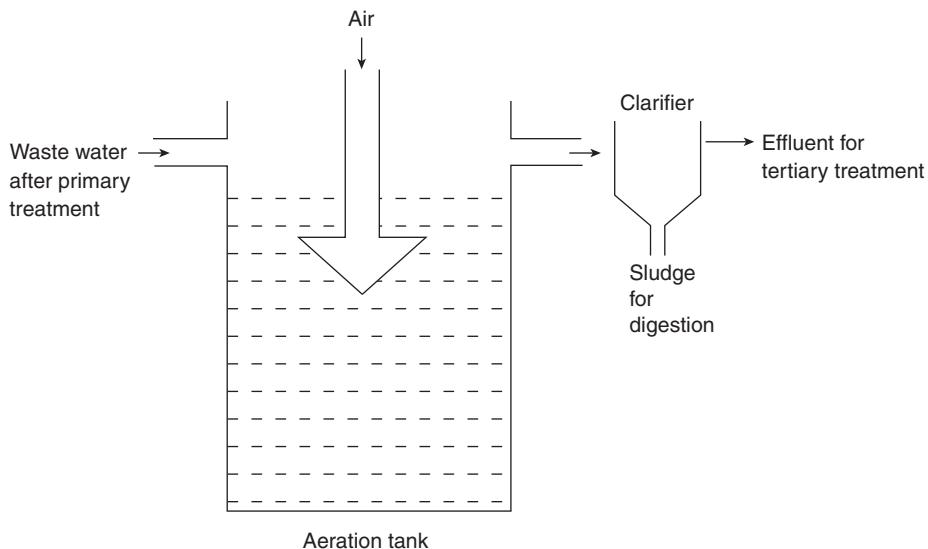

Figure 12 Schematic representation of activated sludge process.
- Activated sludge process (ASP):** In this process, wastewater is pumped into an aeration tank and air or oxygen is passed through it (Figure 12). An activated sludge is generated by aeration of sewage which consists of organic material containing large number of micro-organisms. This is then added as a floc to wastewater coming in after primary treatment. The mixture is aerated and agitated. The microorganisms feed on the organic matter in the wastewater and degrade it. After a sufficient period of time, the water is taken to a settling tank and allowed to settle. The supernatant is used for the next treatment. The healthy sludge is then returned to the aeration chamber, for it to react with a fresh batch of wastewater and the waste sludge is taken up for sludge treatment.